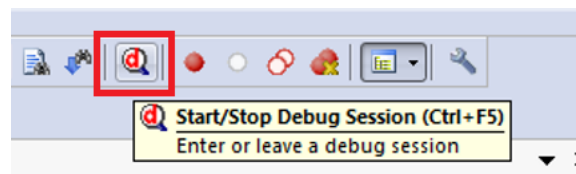

Figure 1.6: Keil IDE: Start/Stop Debug Session Button
3. Click the Start/Stop Debug Session button or press Ctrl-F5 to enter the simulator (see Figure 1.6).
7. Click the Start/Stop Debug Session button or press Ctrl-F5 to exit from the simulator (see Figure 1.6).
3. Click the Start/Stop Debug Session button or press Ctrl-F5 to enter a debug session (see Figure 1.6). This target uses the hardware ULINK2/ME Cortex Debugger. Note you should not click the Download button to load the code to the board. When you start a debug session, the debugger initialization file (i.e. `RAM.ini`) will execute the `LOAD` command to load the code to the board.
7. Click the Start/Stop Debug Session button or press Ctrl-F5 to exit from the debug session (see Figure 1.6).